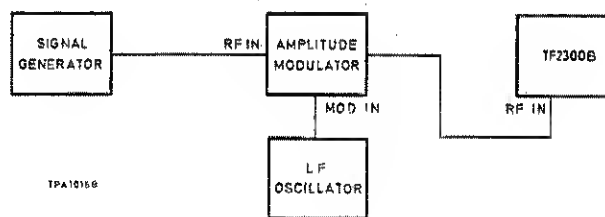

Fig. 4.7 AM rejection measurement
(1) Set up the equipment as shown in Fig. 4.7. Adjust the signal generator to give a c.w. output of 100 mV at any convenient frequency.